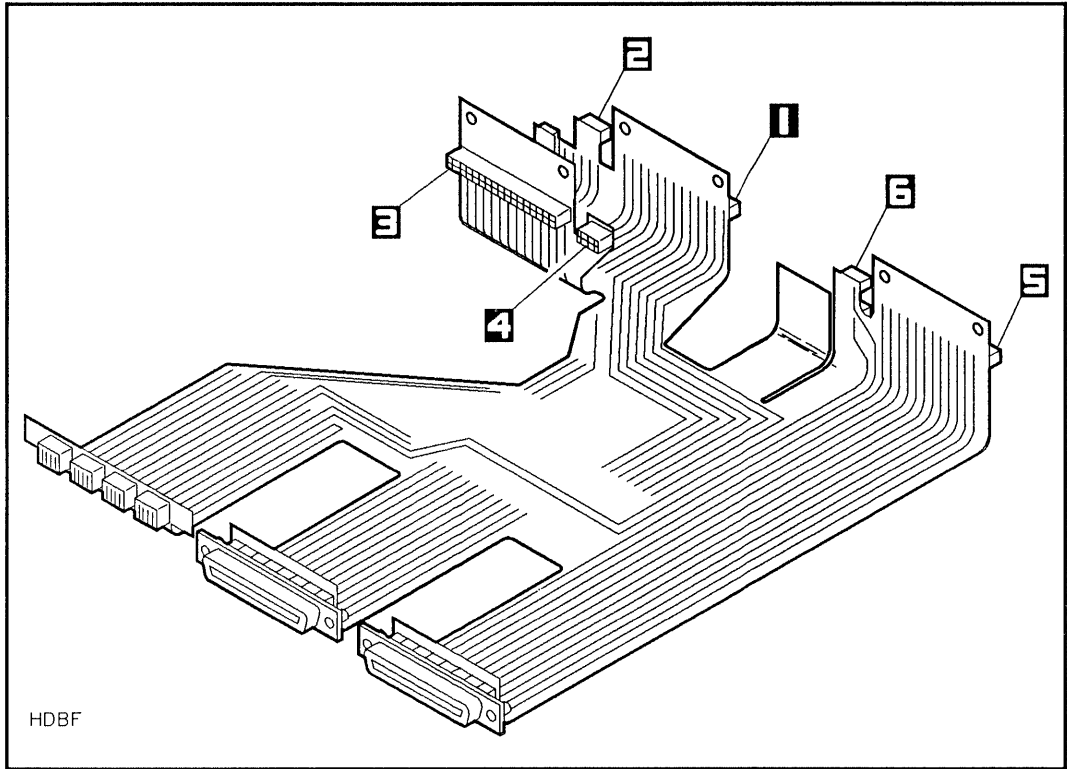
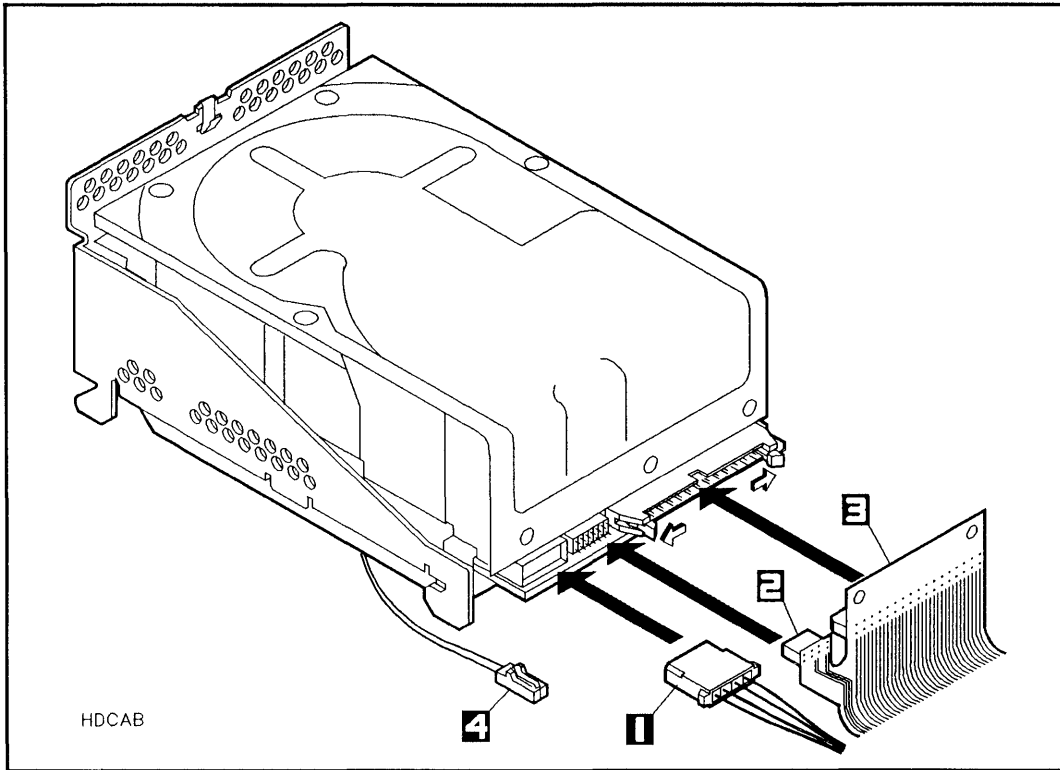

Figure 2-9. BEND/flex Cable Connectors
Figure 2-10. Connecting Cables to the Hard Disk Drive
Connect cables to the hard disk drive as follows (see Figure 2-9 and Figure 2-10):
4. Disconnect the BEND/flex SCSI connector from the hard disk drive SCSI connector by pressing both cable ejectors outwards as shown in Figure 2-10 until the cable is removed.